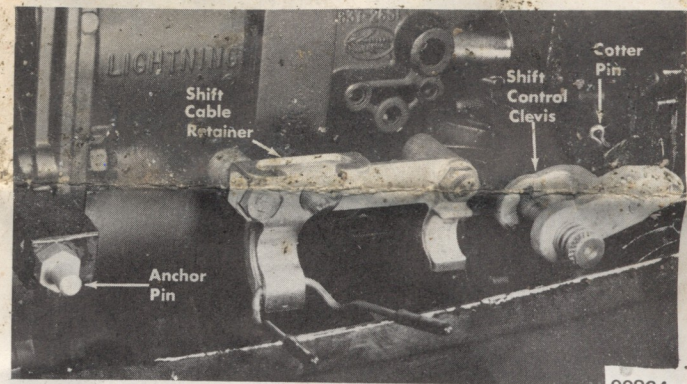

Figure 5. Shift Control Clevis and Shift Cable Retainer Installed
1. Install shift control clevis assembly into shift lever. (Figure 5) Check that paint in shift lever does not cause a bind. Install cotter pin thru shift lever and spread ends.
3. Install assembled shift cable retainer to right side of cylinder block with two 1½" (38mm) long bolts. See Figures 5 and 6.